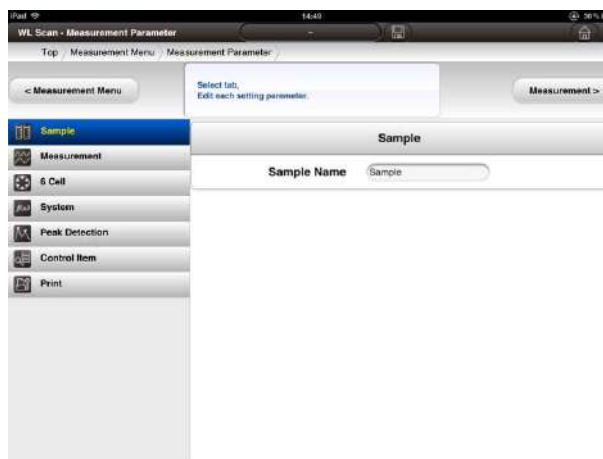

Fig. 4-71 Sample Window
- (1) Press  [sample condition tab] to set sample conditions.
- (2) The sample conditions window (Fig. 4-71) will be shown.